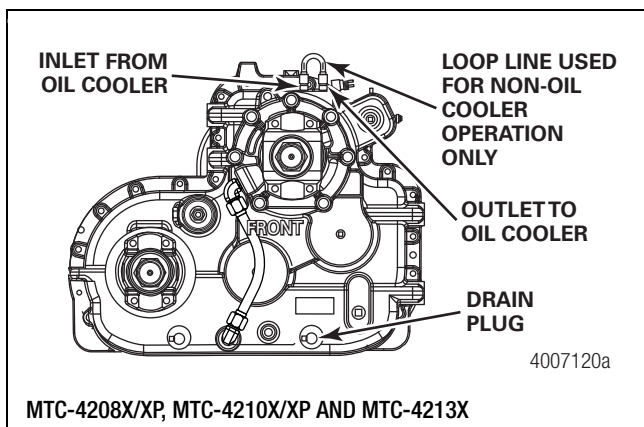

Figure 3.1
5. Remove the magnetic drain plug from the bottom of the transfer case. Drain and discard the oil correctly. Clean the magnetic drain plug. Figure 3.1, Figure 3.2 and Figure 3.3.
7. Disconnect the cooler lines. Figure 3.1, Figure 3.2 and Figure 3.3.